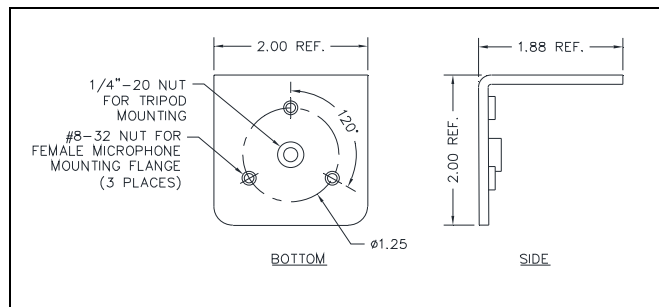

Figure 8. TS200/TS200W L-Bracket Detail
Mount the TS200/TS200W to a tripod or microphone stand using the included L-bracket (see Figure 8).
3. Secure the L-bracket to a microphone stand or tripod (see Figure 8).